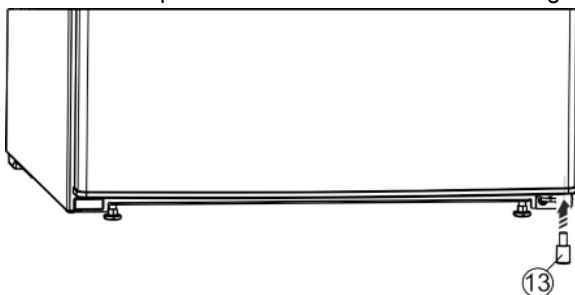

Fig. 7
- Insert the spacer Fig. 7 (13) back under the right-hand side of the door, as it is important for the stability of the appliance.